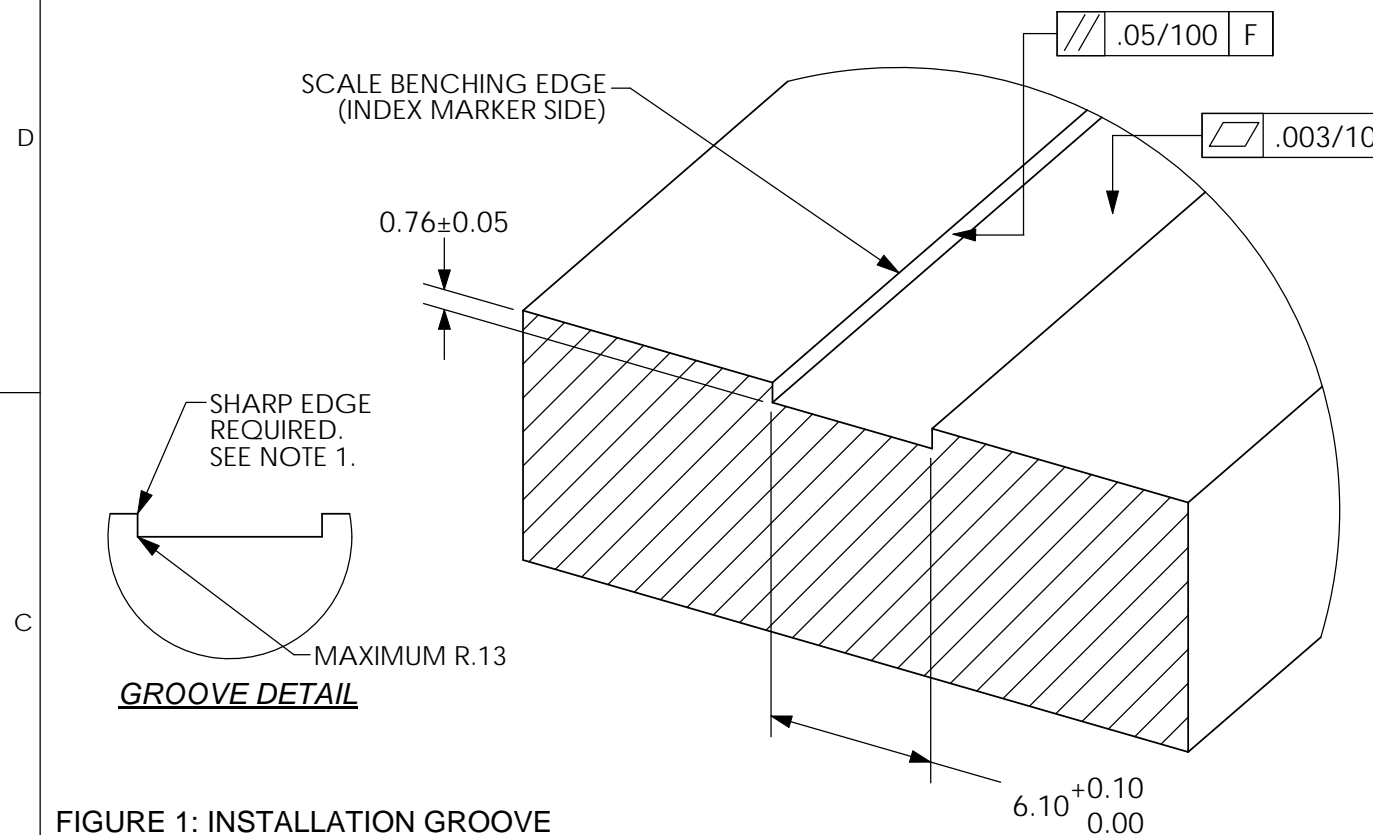
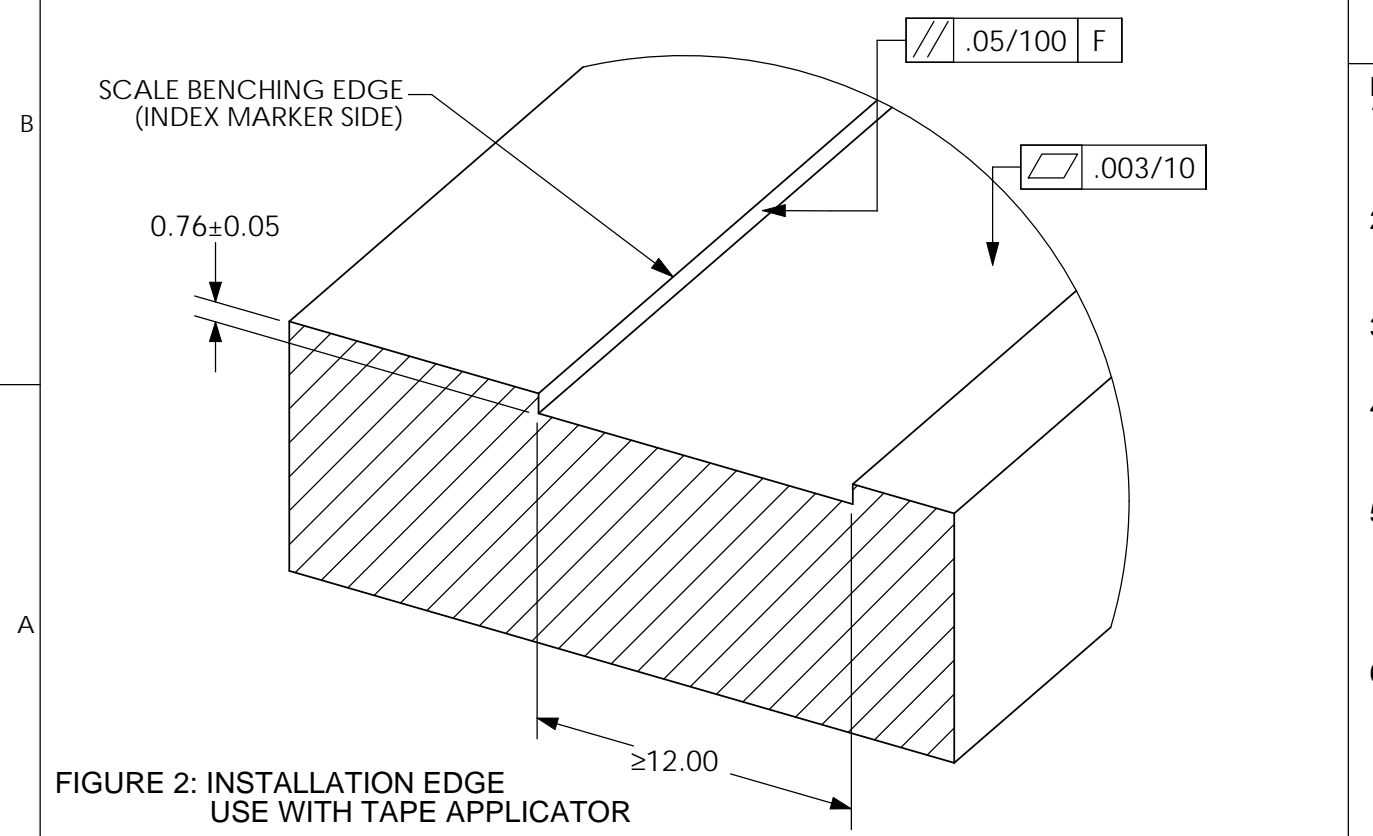
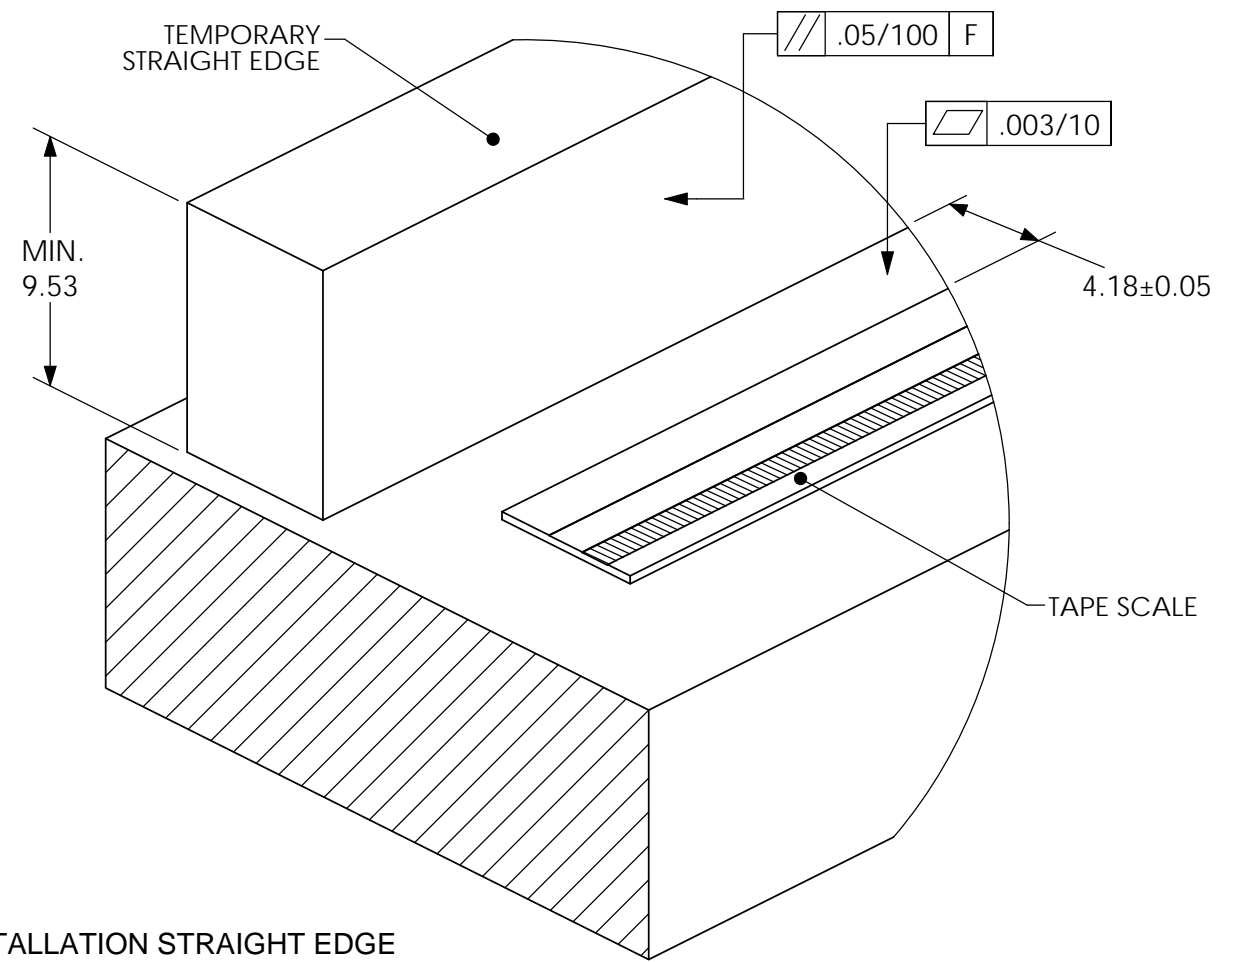

FIGURE 1: INSTALLATION GROOVE
FIGURE 2: INSTALLATION EDGE
FIGURE 3: INSTALLATION STRAIGHT EDGE
3. THE INSTALLATION METHOD SHOWN IN FIGURE 1 SHOULD INVOLVE HAND INSTALLATIONS ONLY. THE APPLICATOR TOOL IS NOT COMPATIBLE WITH THIS METHOD. IN ADDITION END CAPS CANNOT BE USED WITH THIS METHOD.
4. FOR APPLICATIONS WHERE MACHINING THE MOUNTING SURFACE IS NOT DESIRED, A TEMPORARY STRAIGHTEDGE CAN BE USED. A STAINLESS STEEL RULE MAY BE USED AS IN FIGURE 2 IF THE RULE MEETS THE THICKNESS REQUIREMENT. OTHERWISE, THE TEMPORARY STRAIGHTEDGE MAY BE USED AS SHOWN IN FIGURE 3.
5. IN FIGURE 3, THE OUTSIDE REFERENCE SURFACE OF THE TOOL SLIDES AGAINST THE TEMPORARY EDGE, AND THE TAPE SCALE IS THEREFORE OFFSET FROM THE EDGE AS SHOWN. IF THIS OFFSET IS TOO SMALL FOR THE APPLICATION, THE CUSTOMER MAY DESIRE TO CREATE A SPACER THAN CAN ATTACH TO THE OUTSIDE SURFACE OF THE TOOL. PLEASE SEE INSTRUCTION MANUAL FOR DETAILS.
6. IN FIGURES 1 AND 2, THE SCALE BENCHING EDGE IS INTENDED TO AID THE INSTALLATION OF INDEX MARKERS. FOR APPLICATIONS SUCH AS IN FIGURE 3, THE CUSTOMER MAY USE A TEMPORARY BENCHING SURFACE TO INSURE THE PROPER INSTALLATION OF THE INDEX MARKERS. PLEASE SEE INSTRUCTION MANUAL FOR DETAILS. THE EDGE OF THE GROOVE OR STRAIGHTEDGE MUST BE SHARP ON BENCHING SIDE IN ORDER FOR APPLICATOR TO USE AS A GUIDE. IN ORDER FOR THE TAPE SCALE TO MOUNT CLOSE TO THIS EDGE, A MAXIMUM RADIUS OF .13 SHOULD BE USED WHERE THE EDGE MEETS THE BOTTOM OF THE MOUNTING SURFACE.